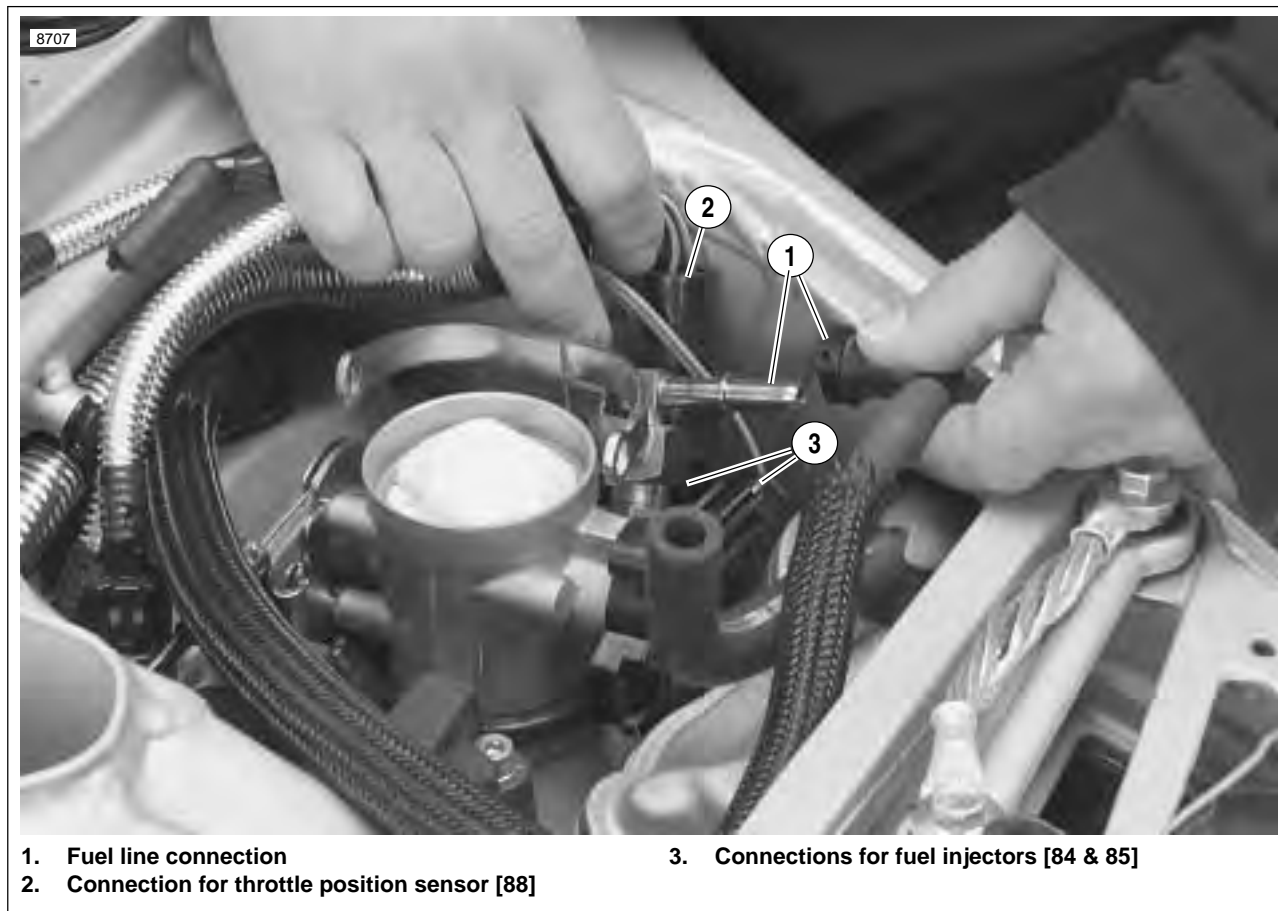

Figure 3-1. Fuel Line and DDFI Electrical Connections
5. See Figure 3-1. Disconnect fuel line.